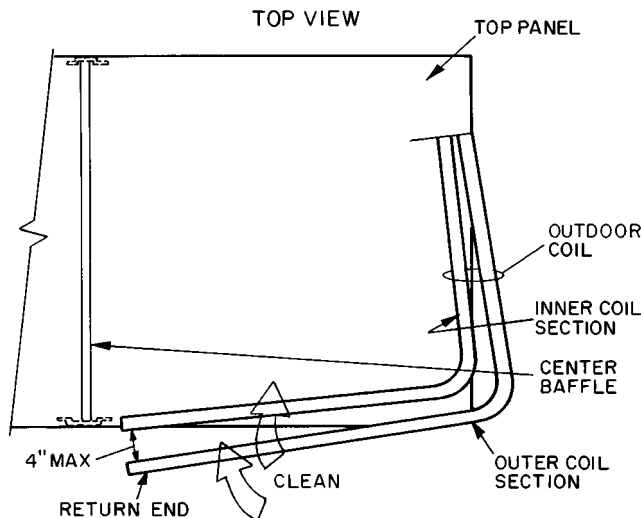

Fig. 32 — Separating Coil Sections
4. Remove device holding coil sections together at return end of condenser coil. Carefully separate the outer coil section 3 to 4 in. from the inner coil section. See Fig. 32.